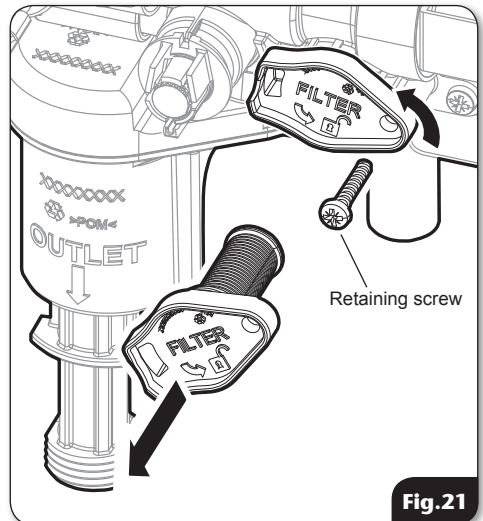

Fig.21
- The inlet filter is situated inside the water inlet fitting (**fig.21**).